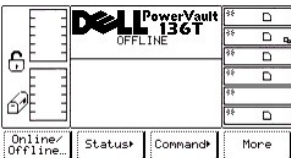

Figure 17. Offline Dialog
- 1 The Offline Dialog is displayed. See Figure 17.